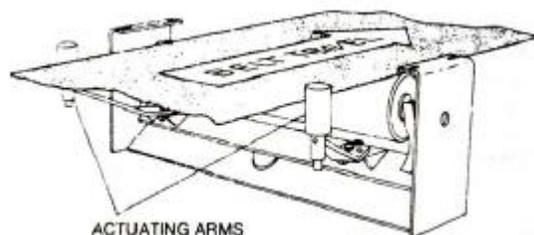

Figure 1
6. Bolt the training idlers with the actuating rolls so that they extend **TOWARD THE APPROACH SIDE OF THE BELT.** See figure 1.